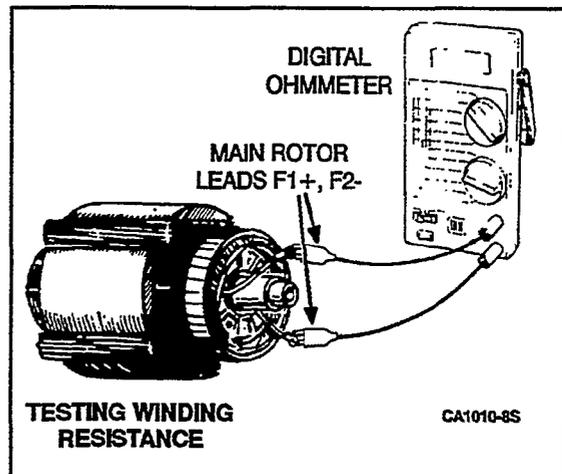

FIGURE 9. TESTING ROTOR FOR AN OPEN CIRCUIT
2. Using ohmmeter, check resistance between F1 and F2 leads, Figure 9.